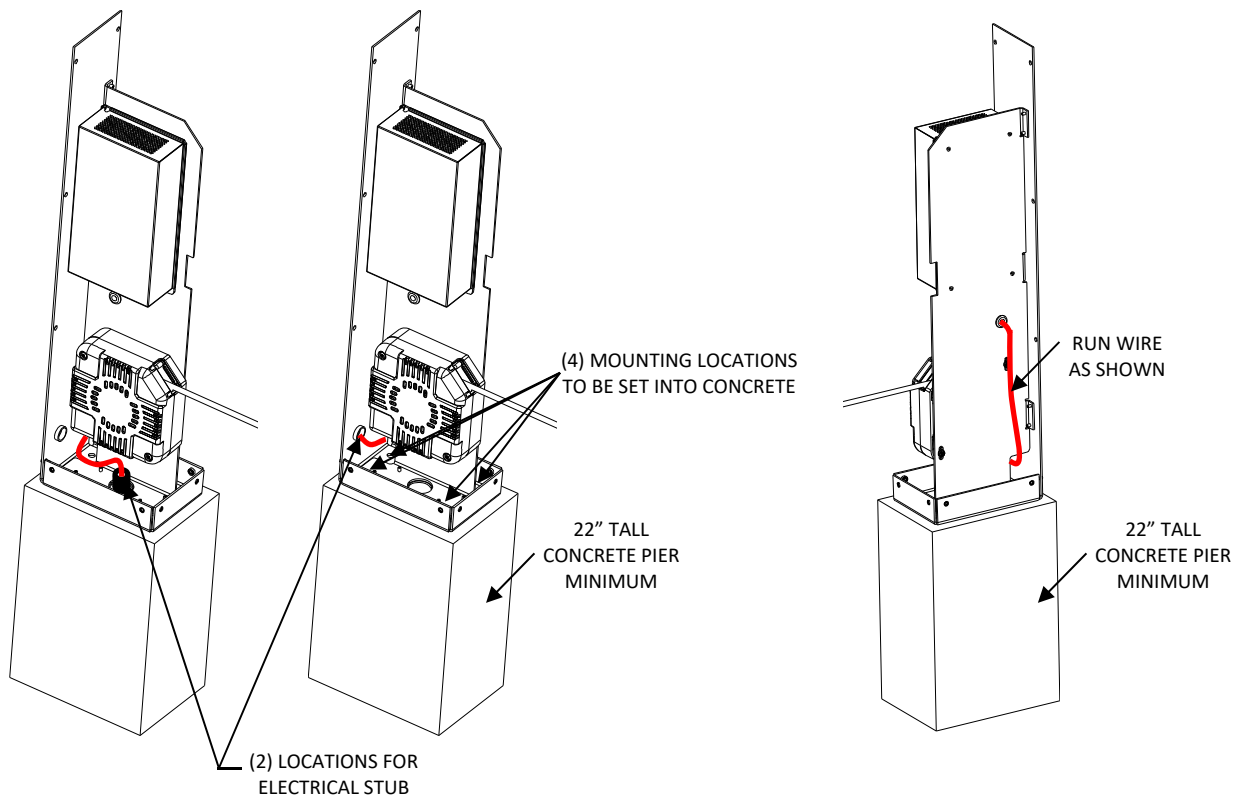
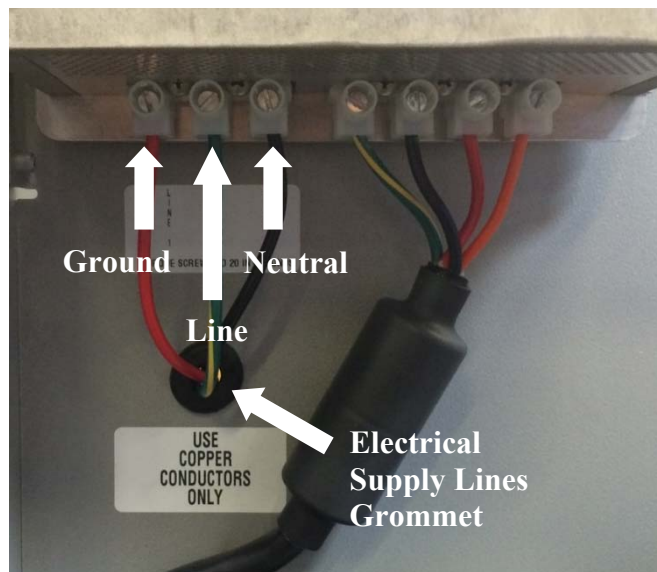

Figure 6 – Input Wiring Routing
Figure 7 – Input Wiring Termination
⚠ IMPORTANT: Torque fasteners to concrete anchor manufacturer's recommended torque value. (See Figure 6)
8. Feed electrical supply through either rear or bottom entry location on left of unit. If rear entry is used, secure conduit to rear housing with appropriate hardware. Feed wires from left to right of unit through bottom rear wire access hole. Route cable upwards and feed from right to left of unit through cable pass-through grommet between cord reel and circuit board. (See Figure 6 on previous page and Figure 7 below)
9. Terminate Line, Neutral, and Ground wires per Figure 7.
10. Install the 6 screws in the lower front and sides of the unit that attach the front housing to the charging base. (See Figure 6 on previous page)
<p>None of the status lights are illuminated. L1 PowerPost® EVSE does NOT charge vehicle when charge coupler is plugged in.</p>	<ul style="list-style-type: none"> • Interrupt power to the L1 PowerPost® EVSE and lock out as appropriate. Disassemble unit per steps 3-5 above. Restore supply power to L1 PowerPost® EVSE. Verify that proper supply voltage is present at the L1 PowerPost® EVSE terminal block. (See Figure 7) • Interrupt power to the L1 PowerPost® EVSE and lock out as appropriate. Verify that supply power wiring is securely terminated to incoming power terminal block. • Interrupt power to the L1 PowerPost® EVSE and lock out as appropriate. Remove incoming power fuse and verify continuity. Replace fuse if blown. • If these steps do not resolve the problem, contact Konnectronix technical support.
4. Disconnect the supply wiring and cord reel wiring from their respective terminal blocks. (See Figure 7 in the Installation section)
8. Reconnect the supply wiring to the terminal block per Figure 7 in the Installation section.